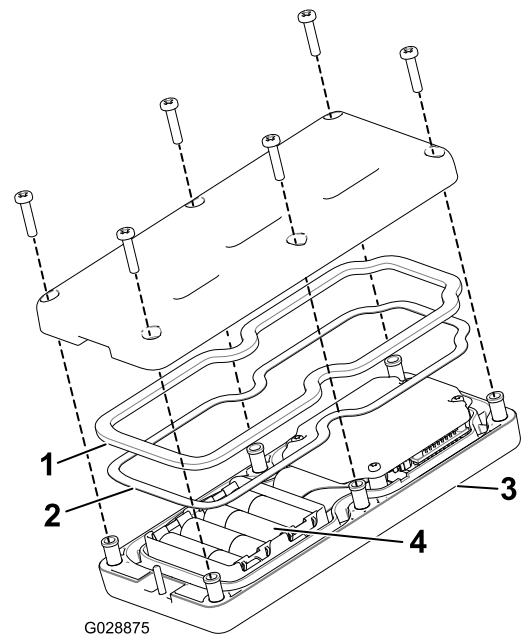

Figure 46
3. Remove the 6 screws from the back of the remote and remove the cover (Figure 46).
5. Plug each fresh battery into a terminal cradle observing proper polarity. (If the batteries are improperly installed, the unit will not be damaged, but it will fail to operate.) The cradle is embossed with polarity markings for each terminal (Figure 46).
6. If you accidentally removed the rubber seal and the steel gasket, replace them carefully into the channel in the handheld remote (Figure 46).
7. Replace the cover and secure it with the 6 screws removed previously (Figure 46) and torque them to 1.5 to 1.7 N·m (13 to 15 in-lb).